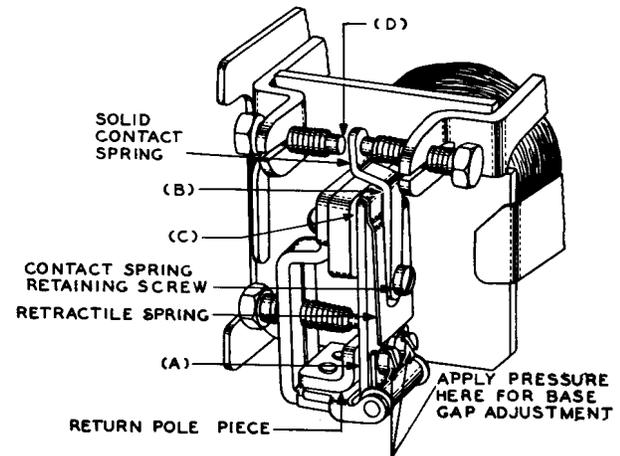

Fig. 5 - Relay Equipped With Solid Contact Spring
(c) Test: Fig. 5(B) - The contact spring shall rest against the top edge of the retractile spring or armature. Where the contact spring rests against the retractile spring, that portion of the top edge of the retractile spring underneath the contact spring shall rest against the armature.
2.14 Armature Travel: Fig. 5(C) - The armature travel shall be
2.15 Contact Separation: Fig. 5(D) - The separation between contacts normally open or between contacts that are opened when the relay is operated shall be